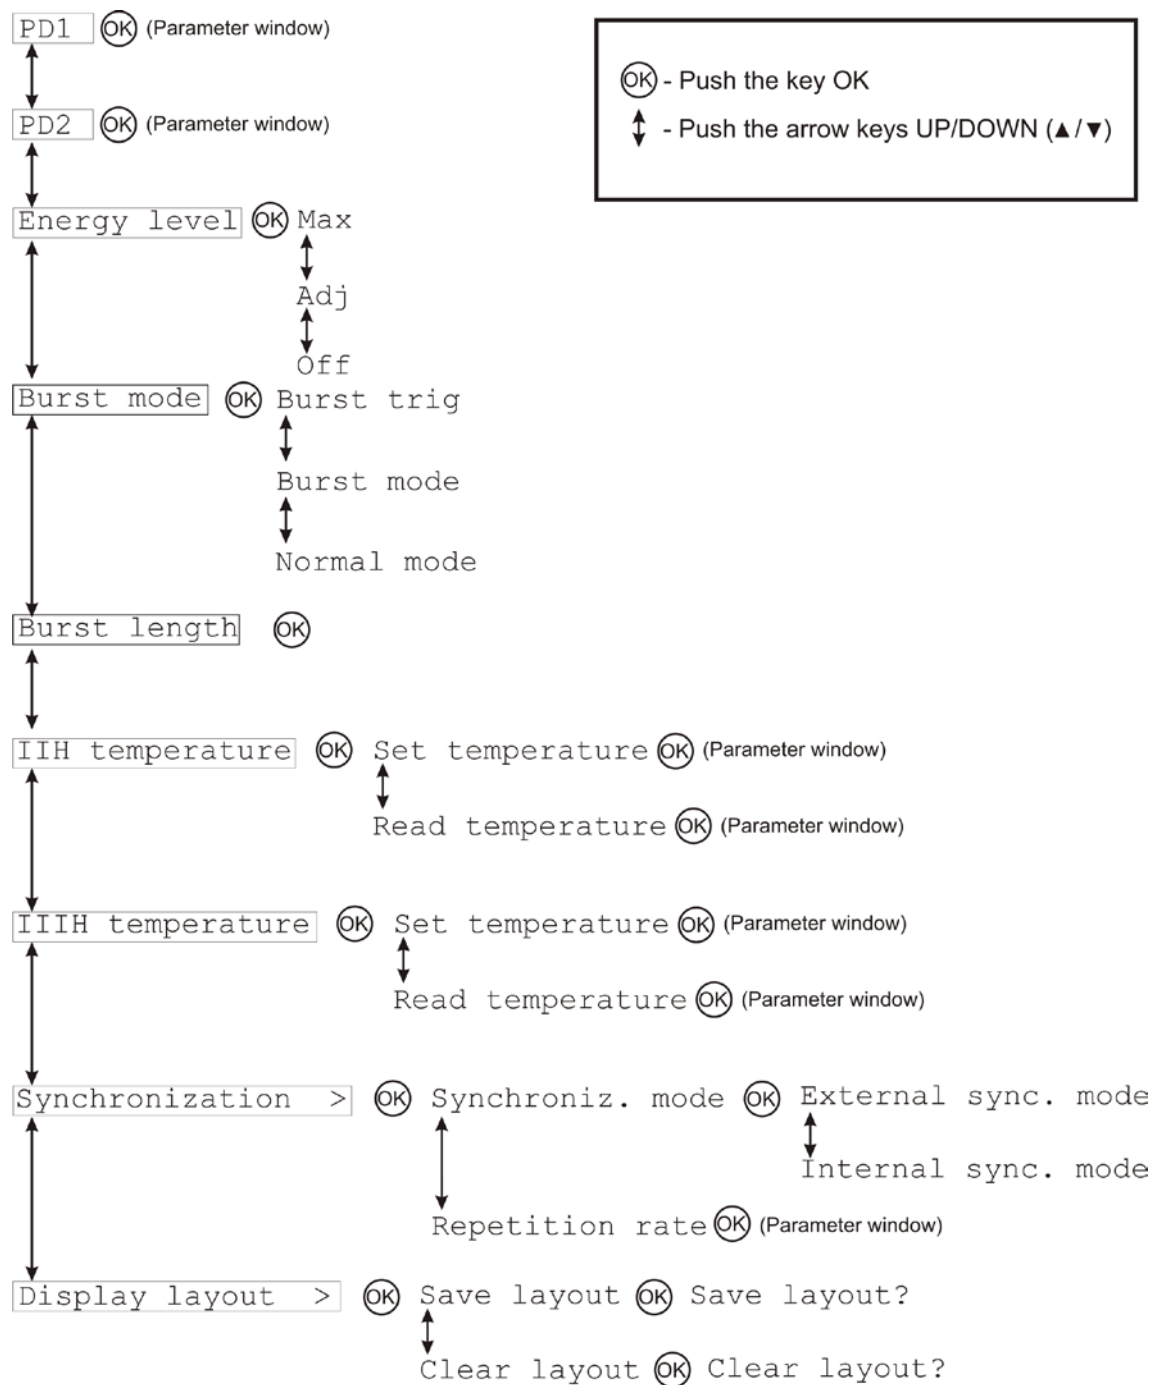

Figure 15 Menu tree
- buttons *UP* (▲) and *DOWN* (▼) when in menu mode move through menu options; in an input fields of the main window they increment/decrement numerical values (see also below). Menu options followed by *OK* sign in Figure 15 are activated by further pressing *OK* button; lowest level menu options not noted by this sign are activated by simply selecting them (like *E Max-E Adj-E OFF*).
The menu tree is shown on Figure 15 below.